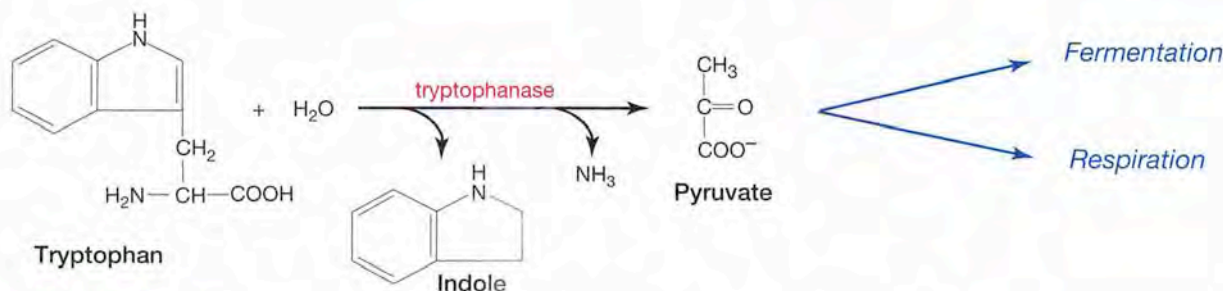

FIGURE 36.3 Tryptophan Catabolism • The enzyme tryptophanase breaks down the amino acid tryptophan.
2. Indole Production: Bacteria that make the enzyme **tryptophanase** can hydrolyze the amino acid tryptophan to pyruvate, ammonia (by deamination), and indole (Fig. 36.3). The cell may then extract energy from pyruvate by funneling it into fermentation reactions or cellular respiration. SIM media allows us to assess bacteria for indole production.²